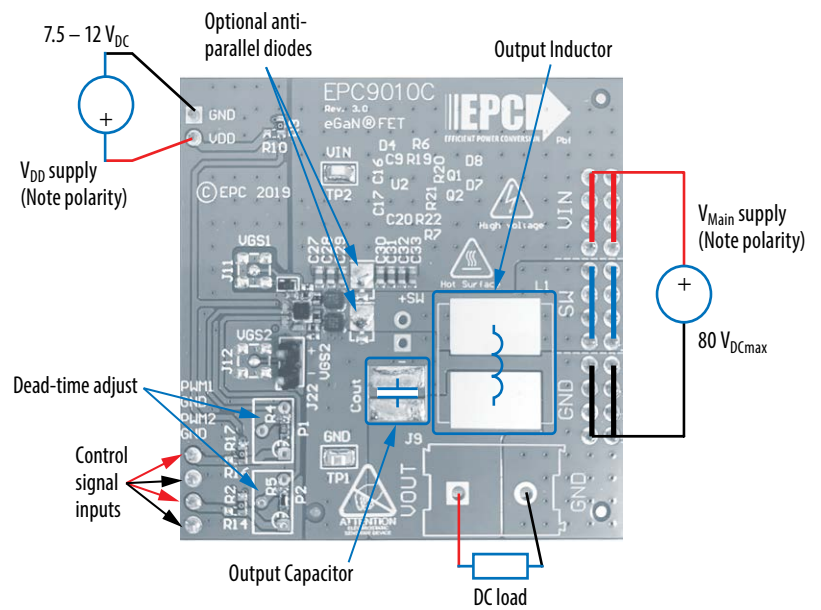
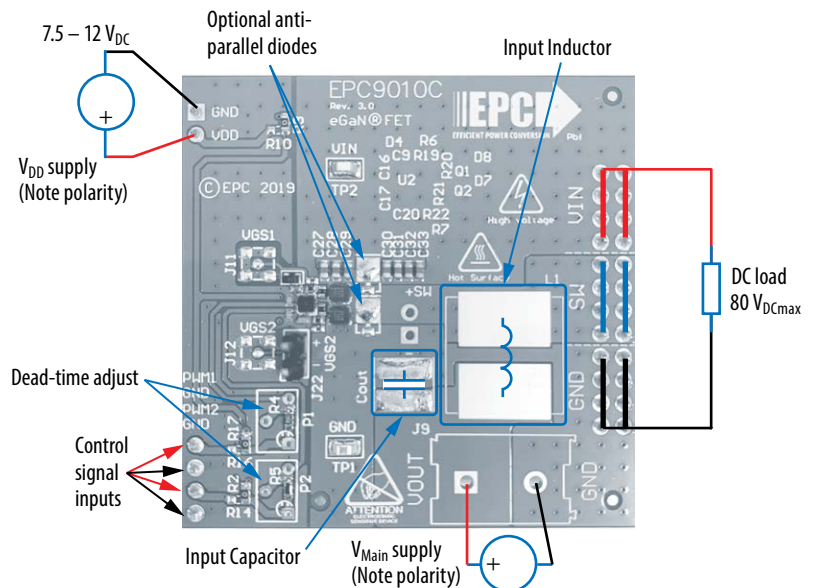

Figure 2: Buck configuration
Figure 3: Boost configuration
The half bridge development board EPC9010C is easy to set up as buck or boost converter. Refer to figure 2 for buck converter configuration and measurement setup, and figure 3 for boost converter setup, and follow the procedure below:
2. With power off, connect the switch node (SW) of the half bridge (J3, J4) to your circuit as required (half bridge configuration). Or use the provided pads for inductor ( $L_1$ ) and output capacitors ( $C_{out}$ ), as shown in figure 2.
1. The inductor ( $L_1$ ) and input capacitors (labeled as  $C_{out}$ ) can either be soldered onto the board, as shown in figure 3, or provided off board. Anti-parallel diodes can also be installed using the additional pads on the right side of the EPC2016C FETs.